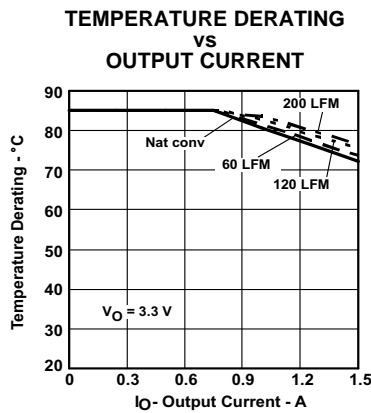
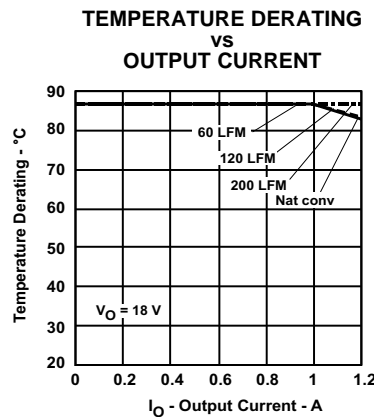

Figure 13.
Figure 17.
- (2) The temperature derating curves represent the conditions at which internal components are at or below the manufacturer's maximum operating temperatures. Derating limits apply to modules soldered directly to a 100-mm x 100-mm, double-sided PCB with 2 oz. copper. Applies to Figure 13 through Figure 17.